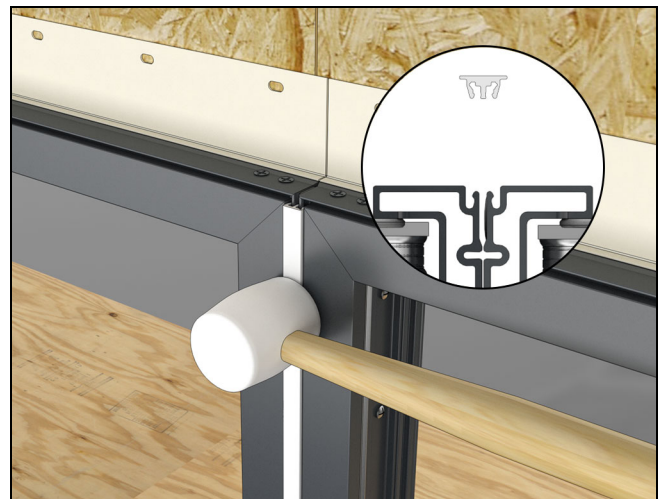
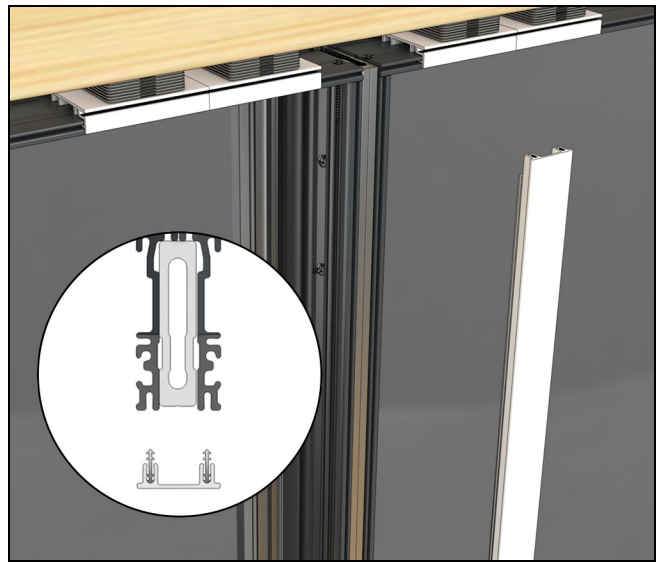

Figure 80
Figure 83
To ensure consistent alignment and reveal for the mull covers, it is critical that frames are flat and flush on both the interior and exterior. Gaps where the exterior covers install (See Figure 80) must be consistent along the entire length of each mull, and frames must be in tight contact with the mull pin where the interior covers install. See Figure 83.
3. Apply the exterior covers. These can be seated with a rubber mallet. Make sure the covers are flush to the exterior accessory kerf. See Figure 80.
5. Apply the interior aluminum covers. These are barbed on and can be seated with a rubber mallet. Make sure the covers are flush to the interior accessory kerf. See Figure 83.